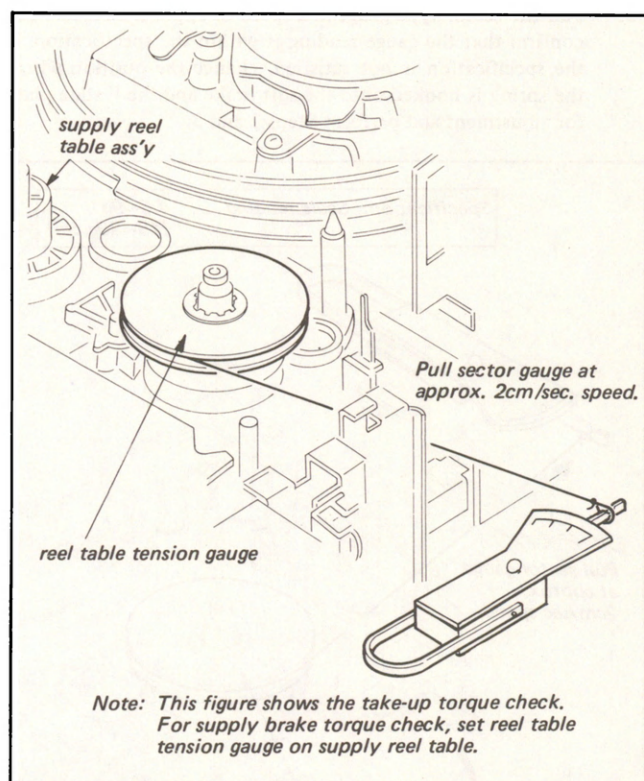

Fig. 3-42. Check of supply and take-up brake torque
2. Attach the reel table tension gauge (Tool Kit Ref. No. J-4) to the take-up reel table as shown in Fig. 3-42 and hook the sector type gauge (100g full scale, Tool Kit Ref. No. J-7) to the end of the string. Pull the sector type gauge at a speed of approx. 2 cm/sec. and read the gauge value.